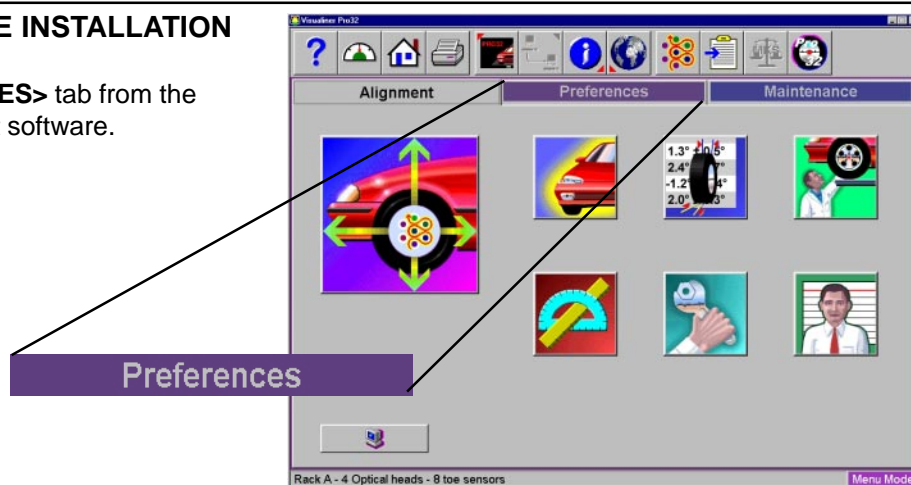

Figure 3-32
1. Choose the **<PREFERENCES>** tab from the main menu of the alignment software. (Figure 3-32)